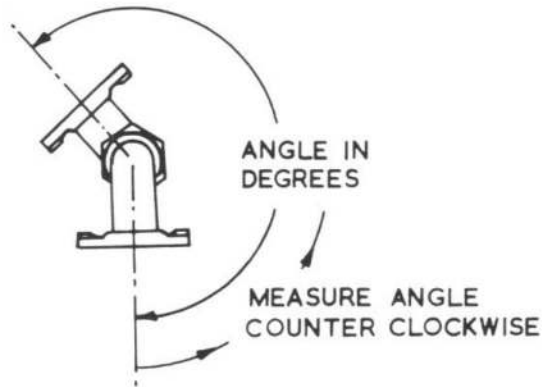

Fig. 5 End view of angular relationship
Measuring angular relationship (fig. 5 to 9)
7. Sometimes known as the position angle, the angular relationship of elbow fittings is measured in a counter-clockwise direction between the centre lines of the two end fittings while the nearest end fitting is held with its centre line vertical (fig. 5).
17. Adjustments may be necessary, before completion of the hose assembly, to obtain the desired angular relationship between two elbow fittings (fig. 5).